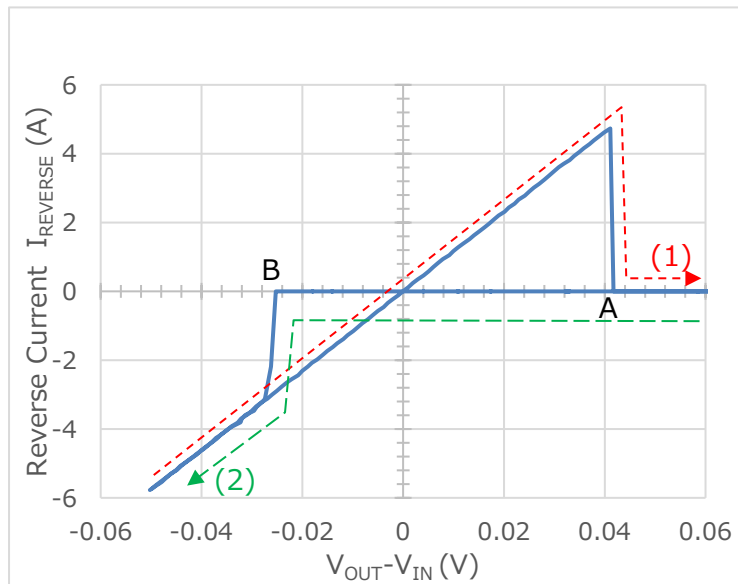

Fig. 3.5.2 Reverse current characteristics of TCK111G
Fig. 3.5.2 shows the reverse current characteristics of the actual true reverse current blocking in TCK111G, which is a Toshiba Load Switch IC with a true reverse current blocking. As indicated by the line (1), the $I_{REVERSE}$ increases as the difference ($V_{OUT}-V_{IN}$) between the output voltage and the input voltage increases. However, the reverse current blocking works at the point A, which is a difference of about 40mV, and the $I_{REVERSE}$ does not flow. As indicated by the line (2), after the backflow prevention circuit is activated, the backflow prevention circuit stops at the point B where V_{IN} is approximately 30mV larger than V_{OUT} , and current begins to flow in the forward direction.